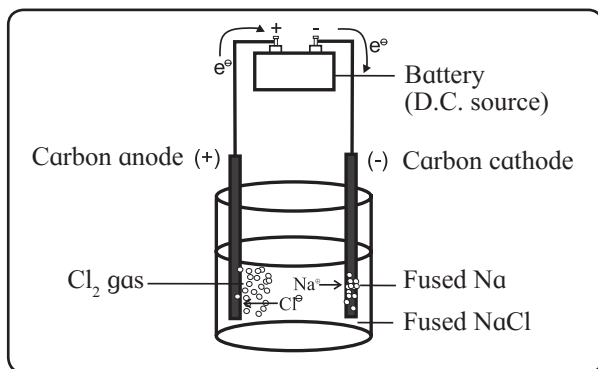

Fig. 5.4 : Electrolysis of fused NaCl
**Construction of cell :** The electrolytic cell consists of a container in which fused NaCl is placed. Two graphite electrodes are immersed in it. They are connected by metallic wires to a source of direct current that is battery. This is shown in Fig. 5.4.
Electrolysis of an aqueous NaCl can be carried out in the cell used for the electrolysis of molten NaCl using inert electrodes shown in Fig. 5.4. The fused NaCl is replaced by moderately concentrated aqueous solution of NaCl. The water involved in electrolysis of aqueous NaCl, leads to electrode reactions that differ from electrolysis of molten NaCl.